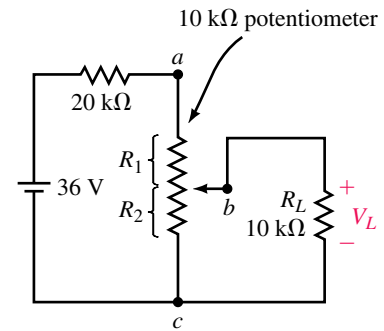

FIGURE 7–69
31. Refer to the circuit of Figure 7–71: